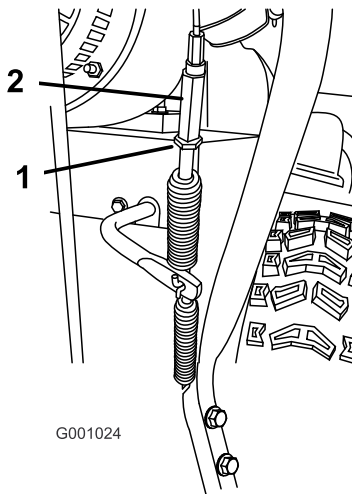

Figure 42
5. Loosen the jam nut (Figure 42).
6. Loosen or tighten the turnbuckle that adjusts the tension on the cable (Figure 42).